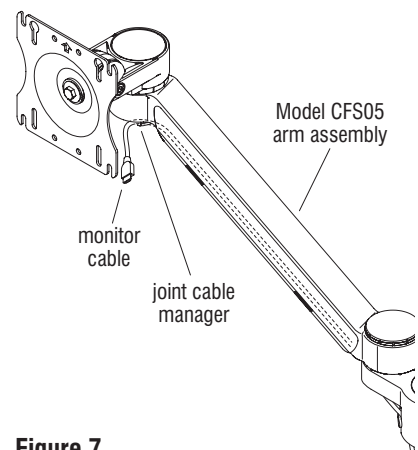

Figure 7
4. Feed monitor cables through joint cable managers located on the underside of arm assembly (Figure 7).